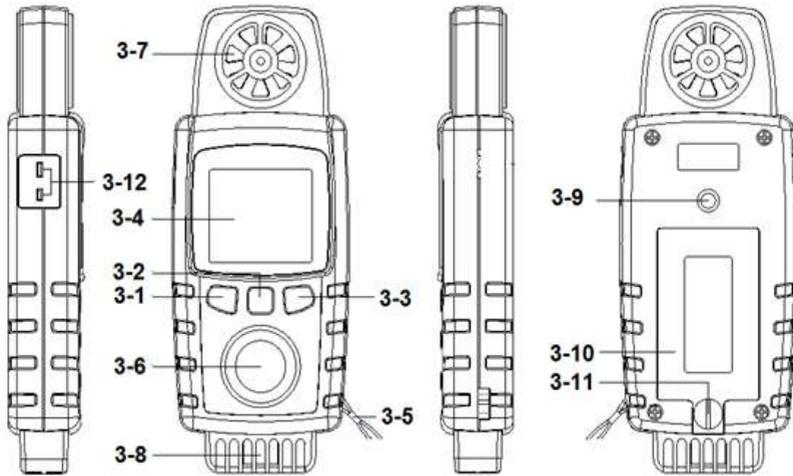

Fig. 1
Intend to get the precision reading, for the Humidity / Temp. , Dew point Temp., Wet bulb Temp., Heat index measurement, the hand or fingers do not touch ( or stay away ) the Humidity sensor ( 3-8, Fig. 1 ).
- 1) Insert the plug of the optional Type K Temp. probe, TP-01 into the " Type K probe socket " ( 3-12, Fig. 1 ).
- 2) Open the " Battery Compartment / Cover " ( 3-10, Fig. 1 ) and remove the battery.